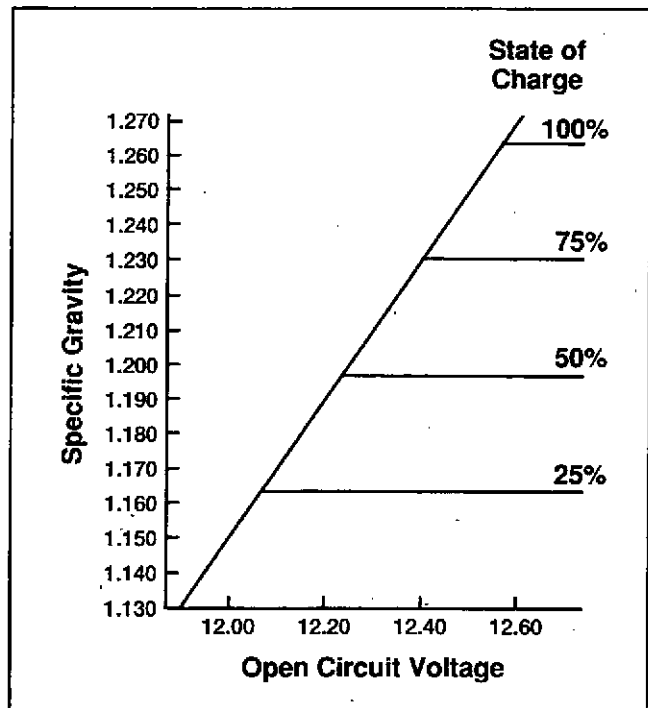

Figure 3-6 Battery State of Charge Chart
4. To determine the battery's specific gravity or state of charge, use the battery state of charge chart (Figure 3-6).